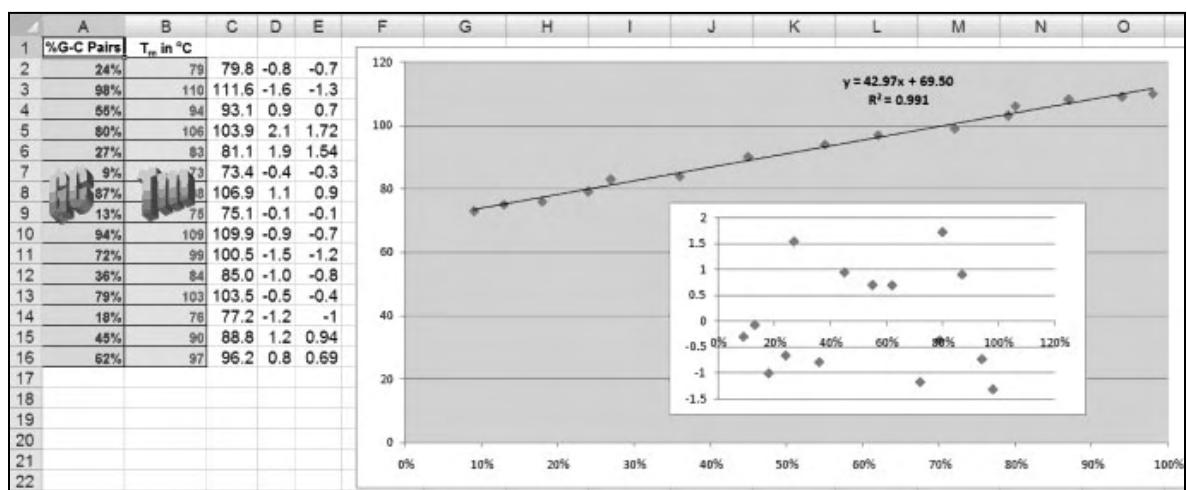

Figure: 4.18
Figure 4.18 shows a nice linear relationship between the percentage of G-C bonds in the DNA helix and the temperature of denaturation. You want to apply the second method here—
3. Plot X versus the residuals in an XY graph (the result is shown in the insert in Figure 4.18). If you are really dealing with a linear relationship, the residuals should be randomly distributed above and below the x axis—and they are in this case!